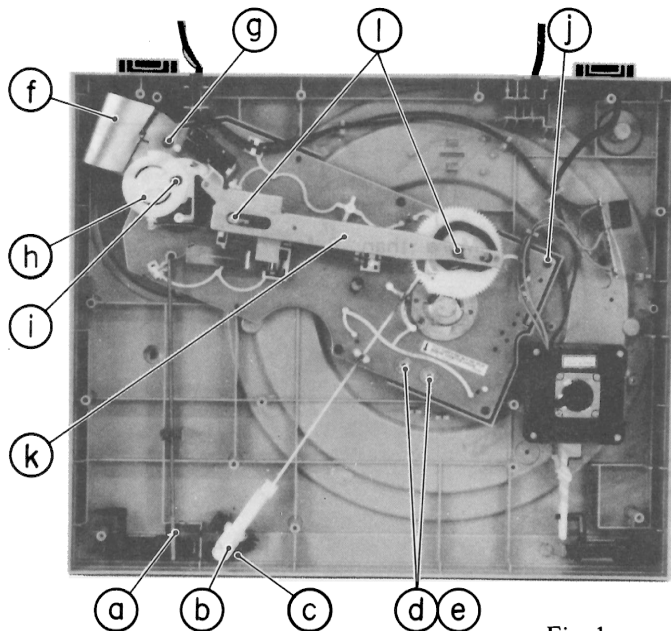

Fig. 1
- (1) Remove the belt from motor pulley (n) and speed changeover guide (p) and run it round the inside circumference of the platter.
- (2) Remove the platter, fix the tone arm on the arm rest and remove the bottom plate with the set upside-down.
- (3) Remove the cueing wire (a), auto-cut lever (b) and auto-cut button (c).
- (4) Cycle plate fixing nut (d) and motor mounting screw (e) are inside the set. Fix the pivots (2 points) of cycle plate (k) using cycle plate fixing nut (d). Use the bottom plate fixing screws for fixing these. (Fig. 1)